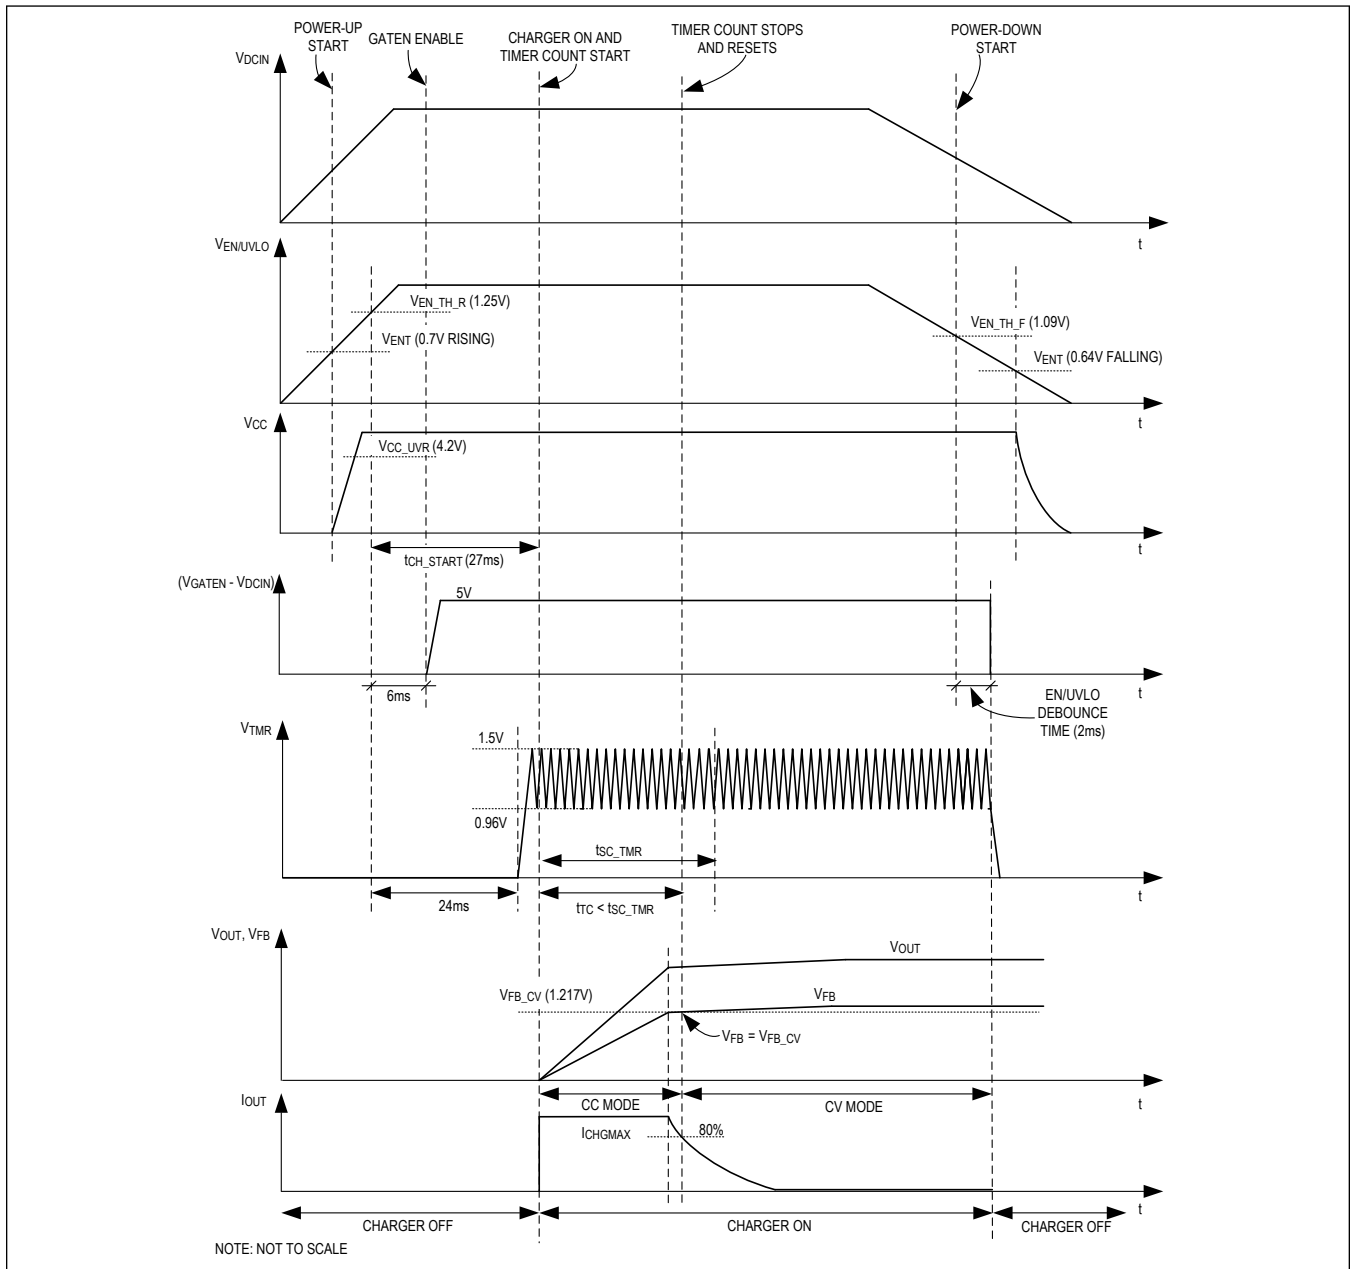

Figure 2. Charger Power-Up/Down Sequence
Figure 2 shows the MAX17701 power-up/-down sequence when DCIN voltage is applied/removed. When DCIN voltage reaches a level such that  $V_{EN}/UVLO$  is around 0.7V ( $V_{ENT}$ ) the INT-LDO regulator is enabled and  $V_{CC}$  rises. When  $V_{CC}$  rises above 4.2V ( $V_{CC-UVL}$ ) and  $V_{EN}/UVLO$  rises above 1.25V ( $V_{EN\_TH\_R}$ ), the MAX17701 initiates EN/UVLO debounce and checks for hardware faults. If there are no hardware faults (see the Hardware Faults section) detected at power-up, the MAX17701 enables internal blocks during charger startup delay time  $t_{CH\_START}$ . After this delay, the charger initiates LX switching and enters CC mode. In CC mode, the current is regulated at the CC mode charging current setting ( $I_{CHGMAX}$ ). The safety timer counts the charging time in CC mode and if the output voltage reaches constant voltage mode ( $V_{FB} > V_{FB\_CV}$ ) within the safety timer setting ( $t_{SC\_TMR}$ ), the charger enters constant voltage (CV) mode and continues to operate.